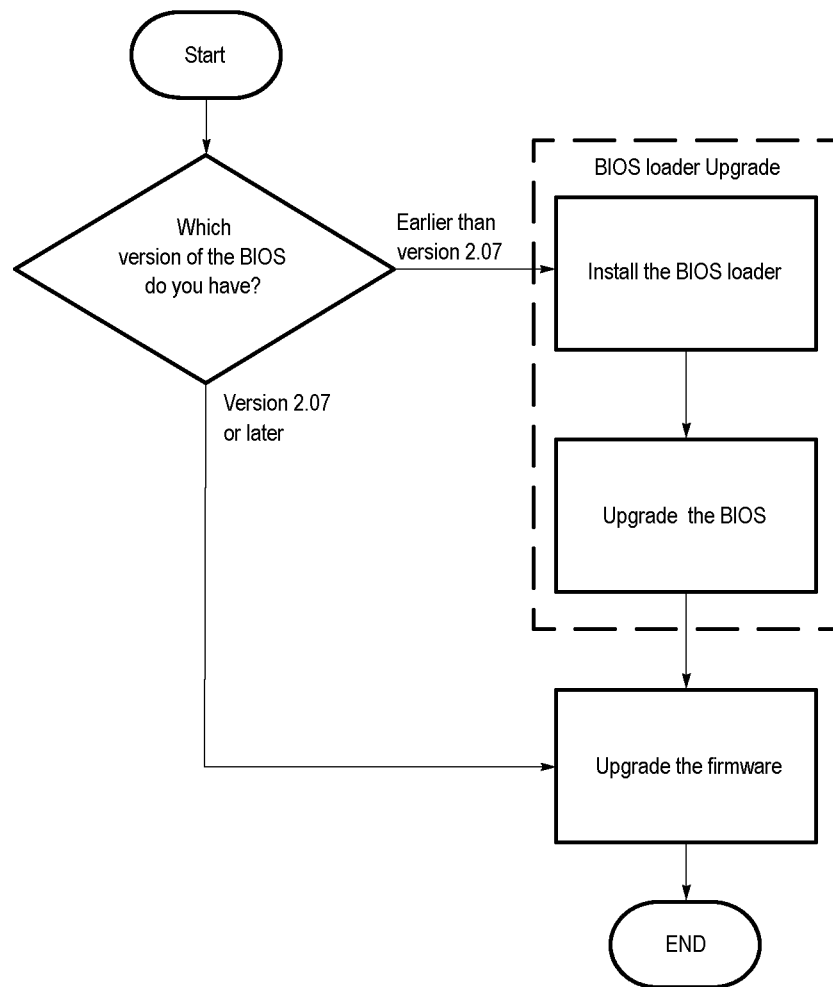

Figure 6: Upgrade path (RUI v2.6.1 and below)
9. Identify which upgrade steps are required for your monitor. (See Figure 6.)
Perform this procedure only if the BIOS version of your monitor is earlier than v2.07. (See Figure 6 on page 19.)